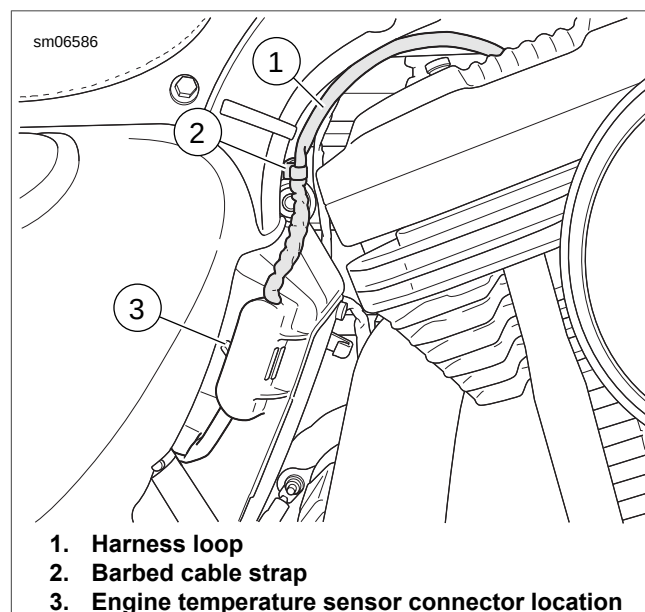
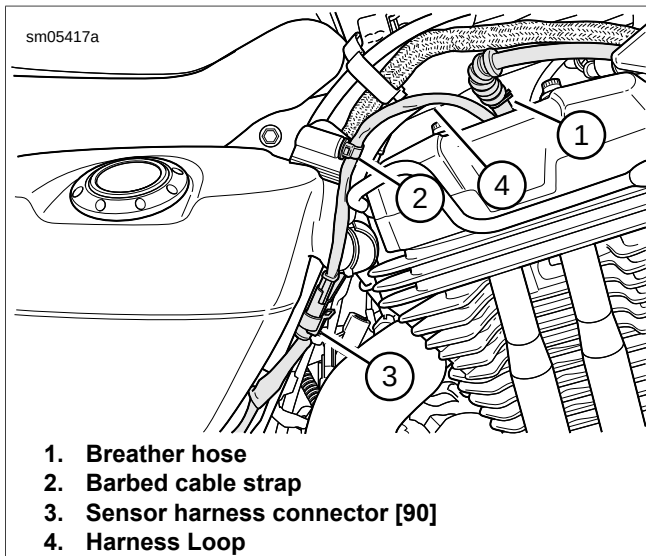

Figure 4-27. ET Sensor Harness: XL Models
Figure 4-28. ET Sensor Harness: XR 1200X
4. See Figure 4-27 or Figure 4-28. Disconnect the ET sensor connector [90] (3) located on right side of H-bracket/ECM caddy.
5. Cut barbed cable strap (2) to free sensor harness from H-bracket/ECM caddy.
6. **XR 1200X:** See Figure 4-28. Disconnect the breather hose (1) from the rear cylinder to gain access to the sensor.
See Figure 4-27. Make sure there is a loop (4) in sensor harness when securing harness. If harness is pulled tight or contacting the rear rocker cover, it could be damaged during vehicle operation.
4. See Figure 4-27 or Figure 4-28. Use a barbed cable strap (2) to secure sensor harness. Position cable strap so harness forms a loop (4) between sensor and cable strap.
5. Connect sensor connector [90] (3) and secure to H-bracket/ECM caddy.